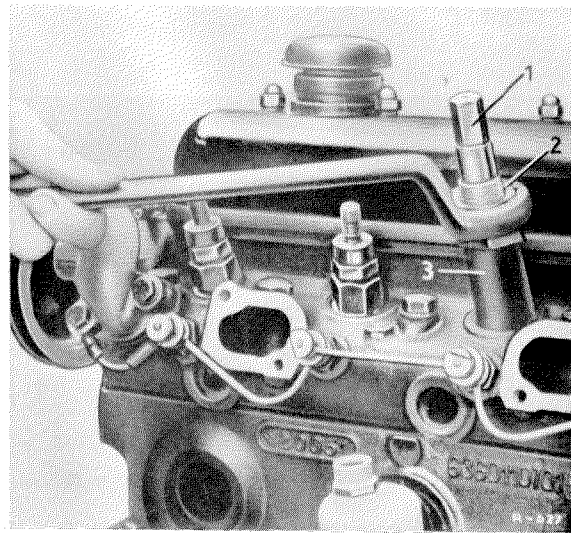

Figure 01-1/2
Now unscrew the threaded ring by turning the keyed sleeve (3) (see Figure 01-1/2).
9. Extract the pre-combustion chamber with the Extractor Part No. 636 589 01 33. For this purpose screw the pressure spindle (1) (see Figure 01-1/3) into the pre-combustion chamber as far as possible, then turn the lifting socket (6), so that the cutout (2) of the lifting socket corresponds truly to the groove (3) in the cylinder head and therefore also to the nose of the pre-combustion chamber. Now extract the pre-combustion chamber by tightening the hex nut (5) (see Figure 01-1/3).